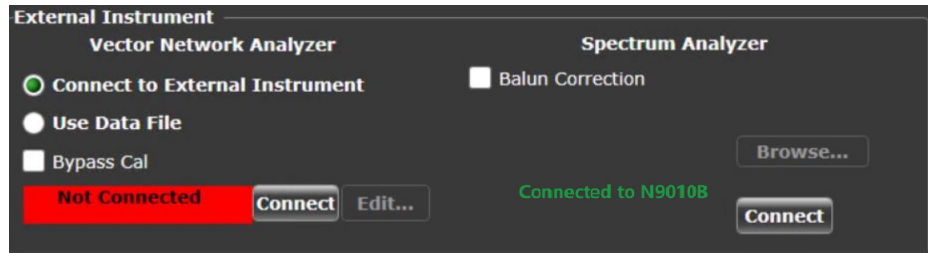

Figure 18 Connection status after the Test App detects the Spectrum Analyzer
- 12 Once the 25GBASE-T Ethernet Test Application detects the Spectrum Analyzer, it is indicated on the **Set Up** tab as shown in Figure 18.